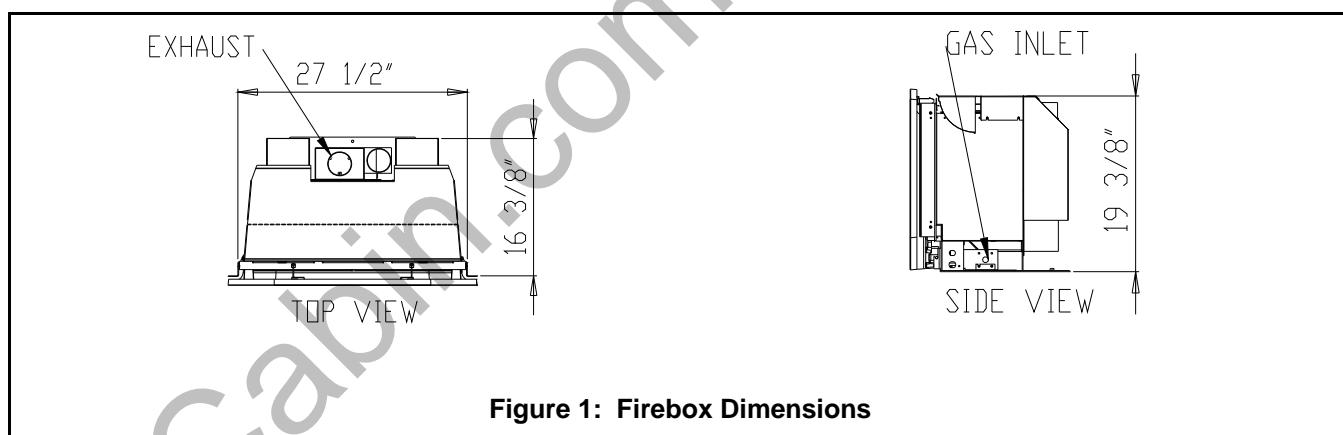

Figure 1: Firebox Dimensions
3. If necessary, remove the smoke shelf, internal baffles, screen, masonry lining and doors. (see the Dimensions in *Figure 1*).
the center of the unit, the intake adaptor collar is on the right side of the stove (refer to *Figure 1*, on page 7) Install the restrictor if necessary. Slide a hose clamp over the ends of both flexible vent pipes. Place the flexible vent pipe marked "intake" onto the intake collar, place the flexible vent pipe marked "exhaust" onto the exhaust collar. Secure them to the collar adaptors by tightening the hose clamps with a slotted screwdriver or 5/16" nut driver.